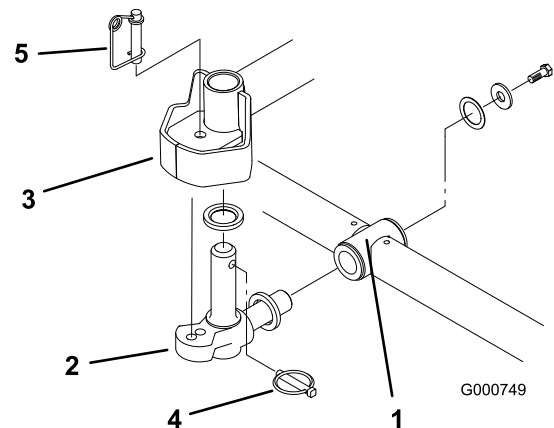

Figure 5
6. Insert a thrust washer onto horizontal shaft of pivot knuckle as shown in (Figure 5).
7. Insert the horizontal shaft of the pivot knuckle into the mounting tube of the carrier frame (Figure 5).
8. Secure pivot knuckle to carrier frame with a thrust washer, flat washer and a flange head capscrew (Figure 5).
9. Insert a thrust washer onto vertical shaft of pivot knuckle (Figure 5).
10. If removed, insert the vertical shaft of the pivot knuckle into lift arm pivot hub (Figure 5). Guide the pivot knuckle in place between the two rubber centering bumpers in the under side of the lift arm steering plate.
11. Insert the lynch pin into the cross hole on the pivot knuckle shaft (Figure 5).
Note: If fixed cutting unit position is required, insert steering locking pin into pivot knuckle mounting hole (Figure 5).
14. Hook spring wire around bottom of steering locking pin (Figure 5).